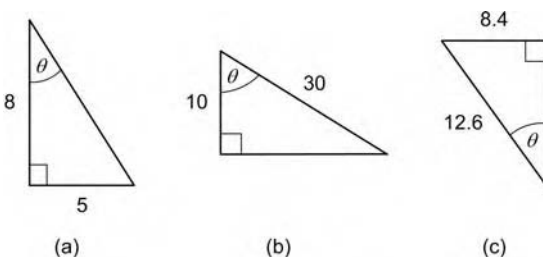

Figure 2.38
- Find the angles marked θ , in the right-angled triangles shown in Figure 2.38.